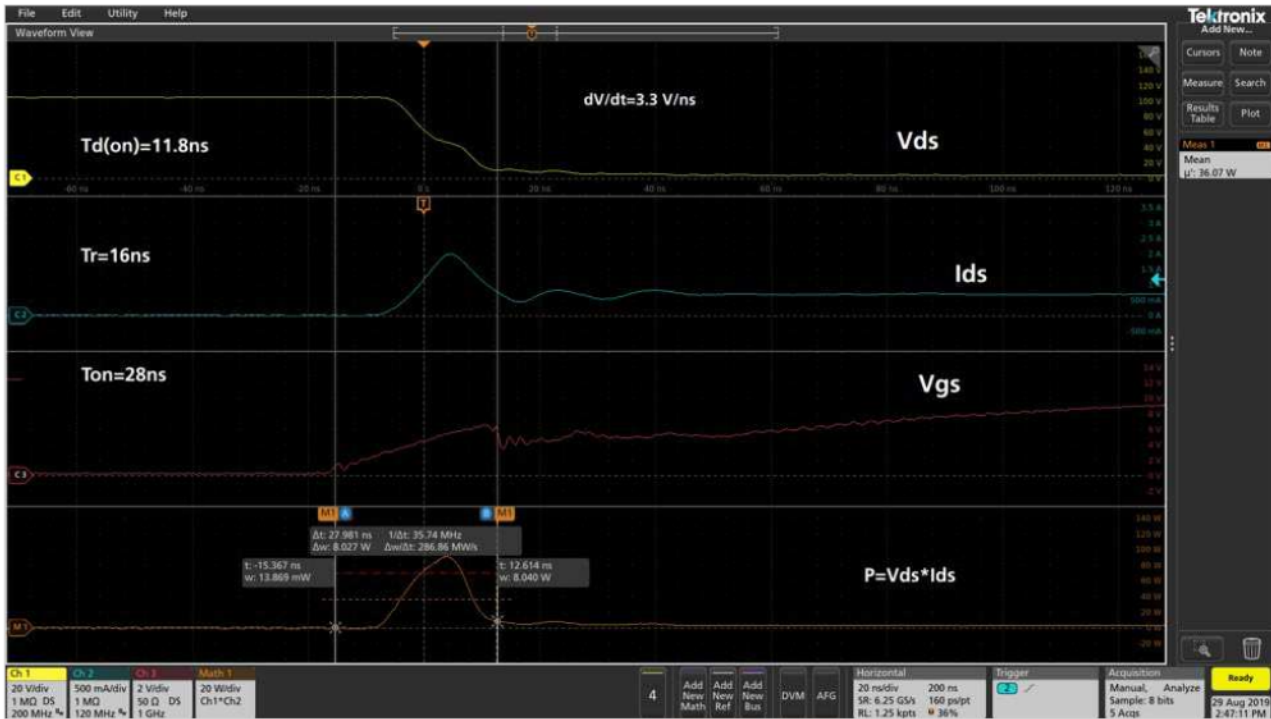

Figure 18: Turn-on parameters waveforms.
**Figure 18** shows the waveforms captured on the scope and the measurements for turn-on parameters. Using the cursors, the timing parameters can be retrieved. Using the Math function, the turn-on loss during that transition can be calculated. The 5 Series MSO is also able to perform automated switching losses measurements using the 5-PWR software package on the scope. This is referenced in the following datasheet that could be found on tek.com: “Advanced Power Measurement and Analysis”. [7]